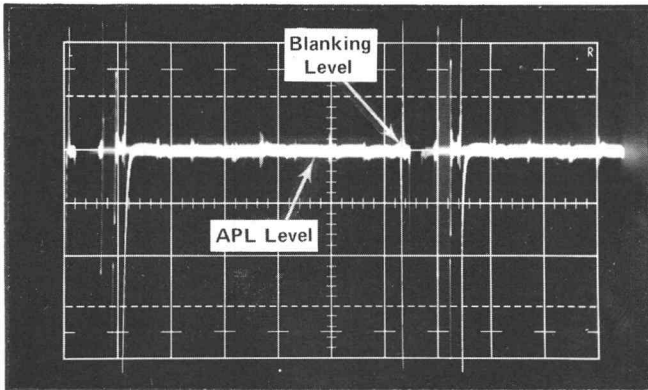

Fig. 5-10. Typical display with APL level aligned with the blanking level.
*If any portion of step 9 is not within the listed tolerance, check and/or replace the APL Level resistor(s); see Diagram ⑤. Then perform steps 6, 7, and 8 before repeating step 9.*
g. Observing the test oscilloscope display, rotate the 067-0596-00 calibration fixture  $V_2$  Volts control until the blanking level is aligned with the 10 APL level as shown in Fig. 5-10.
v. Using the procedure just described for checking the 10, 20, and 30 APL% switch settings and Fig. 5-10, check all remaining settings of the Type 142 MOD STAIRCASE APL% switch listed in Table 5-1.